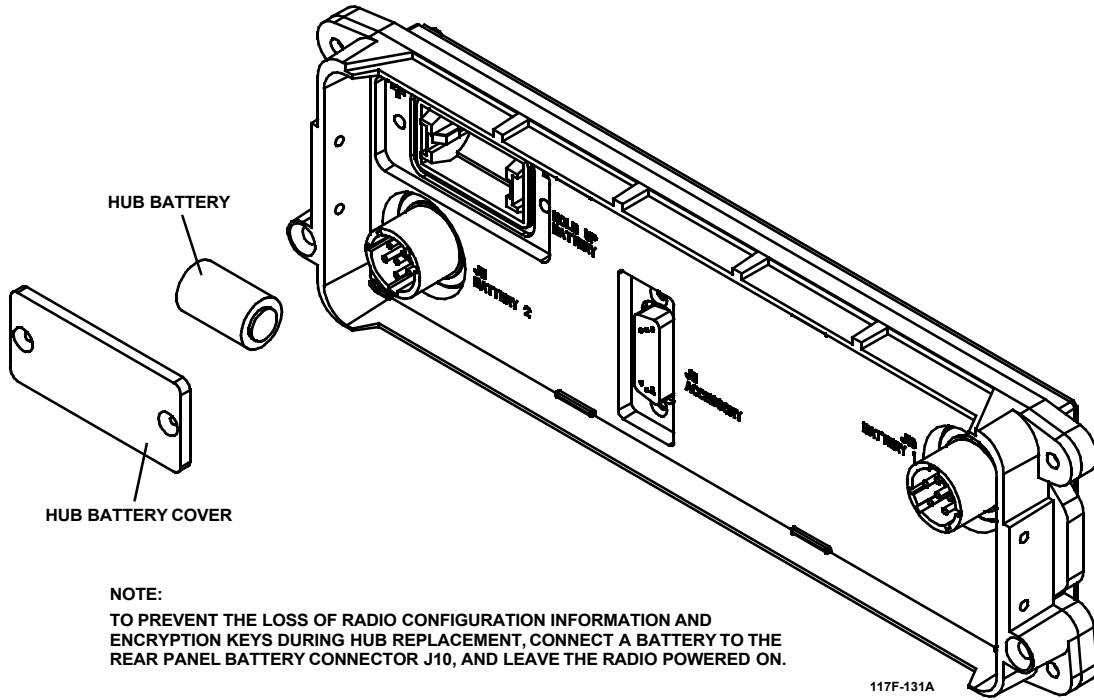

Figure 5-1. Replacing HUB
See Figure 5-1. Perform the following procedure to replace the HUB without losing radio programming and configuration information:
- c. Without turning the R/T **OFF**, remove and replace the HUB as shown in Figure 5-1.